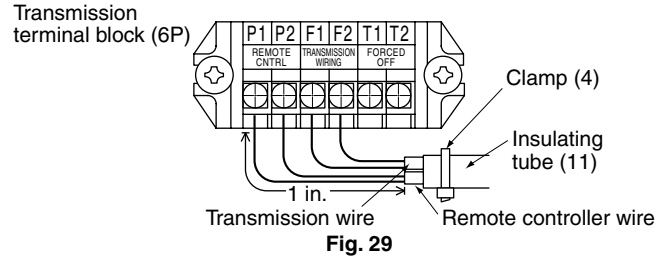

Fig. 29
- (3) Remove the control box lid.
- (4) Add 2nd remote controller to the transmission terminal block (P1, P2) in the control box. (There is no polarity.) (Refer to Fig. 29 on page 11 and Table 4 on page 12)